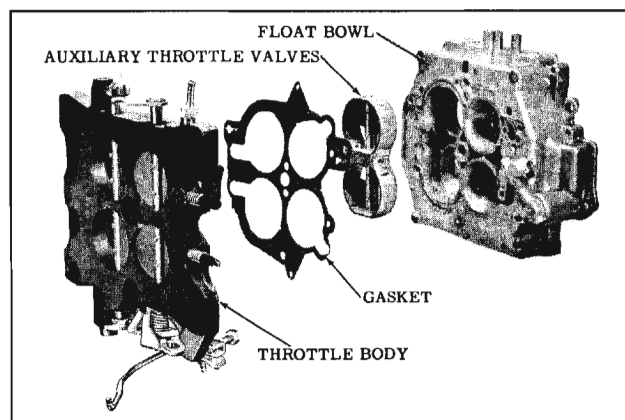

Fig. 9-12 Auxiliary Throttle Valves
the throttle flange and gasket. (Fig. 9-12)
1. With the carburetor body in the inverted position, install the auxiliary throttle valve assembly so that the calibrated spring operating pin is down. (Fig. 9-12)